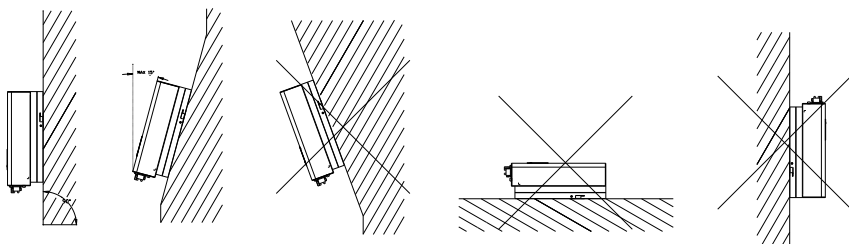

Figure 4.1 Mounting method
Please mount the inverter correctly as shown in Figure 4.1 below.
- ① The equipment employs natural convection cooling, and it can be installed indoor or outdoor.
- ② Please install the equipment under the guidance of Figure 4.1. Vertical installation on floor level is recommended. Mount vertically or tilted backwards by max. 15°. Never install the inverter tilted forward, sideways, horizontally or upside down.
- ③ Install the inverter at eye level for convenience when checking the LCD display and possible maintenance activities.
- ④ When mounting the inverter, please consider that disassembly for service work may be required.